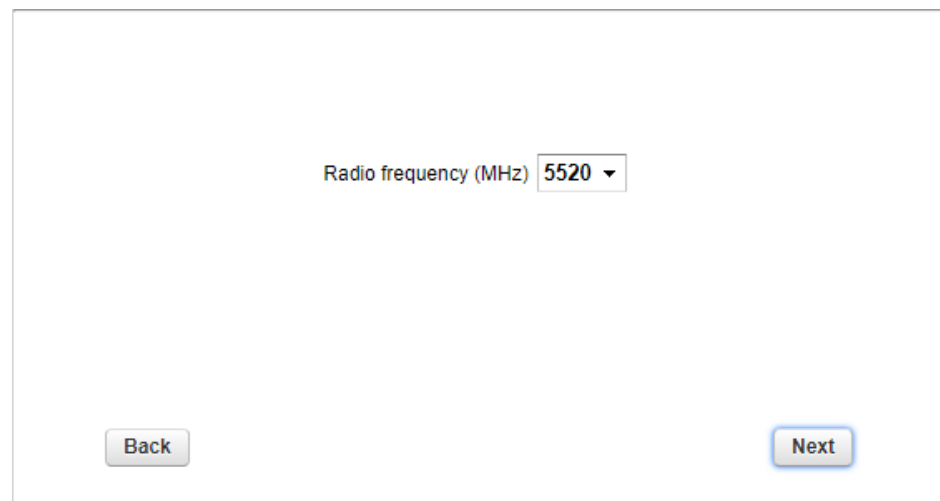

Figure 15. MeshWizard (Radio frequency window)
- The radio frequency window will be shown (Figure 15 \(page 43\)).